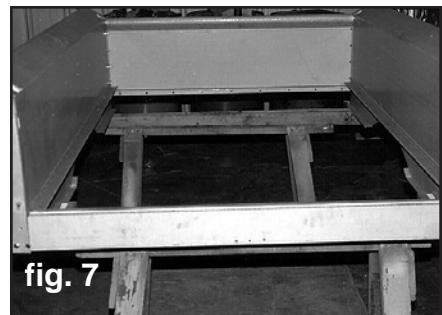

fig. 7
9. Place the assembly on supports horizontally to gain access to both the top and bottom of the bed floor area. See figure 7. This can also be achieved by standing the bed assembly vertical. Place a blanket or other suitable protection on the floor and stand the bed assembly on the front bed panel.